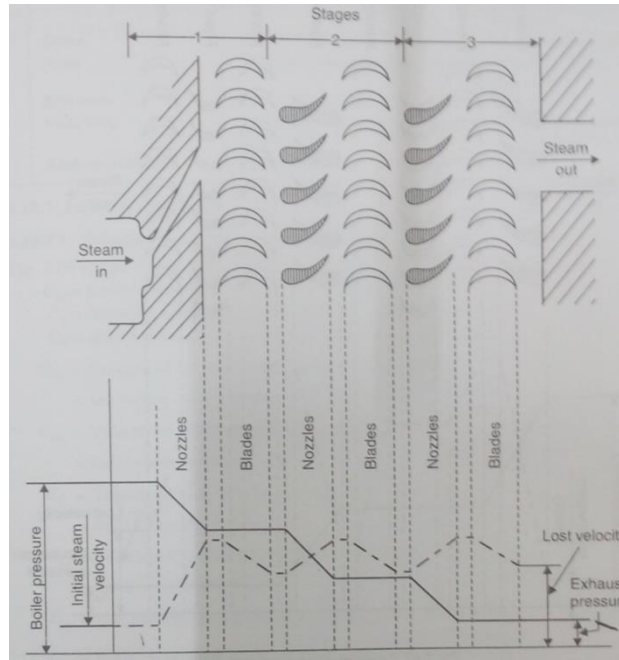

Figure 4 Pressure Compounding
- Following figure 4 shows a rings of fixed nozzles incorporated between the rings of moving blades